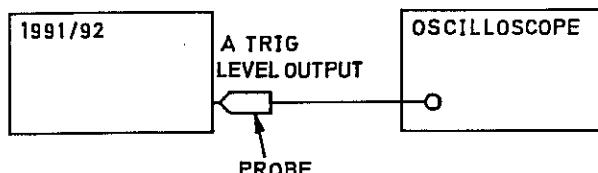
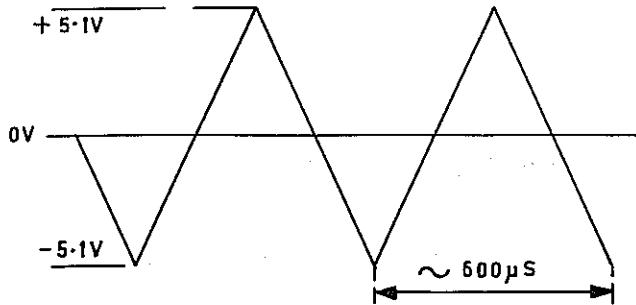

Fig 7.23 Connections for Trigger Level PVP
Fig 7.24 Trigger level Waveform
- 61 (1) Connect the test equipment as shown in Fig 7.23.
(2) Select DC coupling of the oscilloscope input.
(3) Set the oscilloscope to monitor a waveform of approximately 12 V peak-to-peak with a frequency of approximately 2 Hz.
(4) Select CHECK.
(5) Press **7**   **6**   **SHIFT**   **STORE**   **SF**   **SHIFT**   **SF**
(6) Verify that the channel A and B TRIG indicators are flashing, and that the displayed waveform is as shown in Fig 7.24.
(7) Transfer the oscilloscope probe to the channel B TRIG LEVEL OUTPUT pin and verify that the same waveform is displayed.
(8) Press **7**   **0**   **SHIFT**   **STORE**   **SF**   **SHIFT**   **SF**
(9) Disconnect the test equipment.